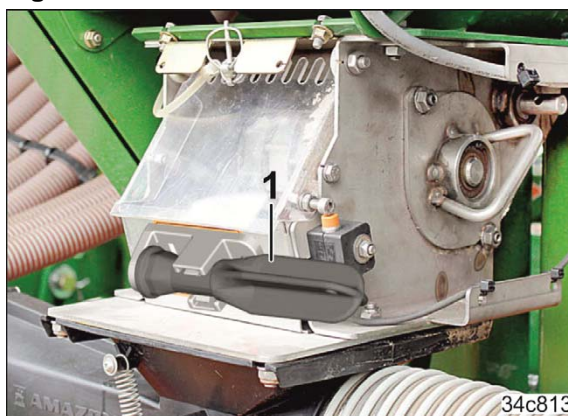

Fig. 179
- 7.1 Remove the spanner (Fig. 179/1) from the transport bracket.